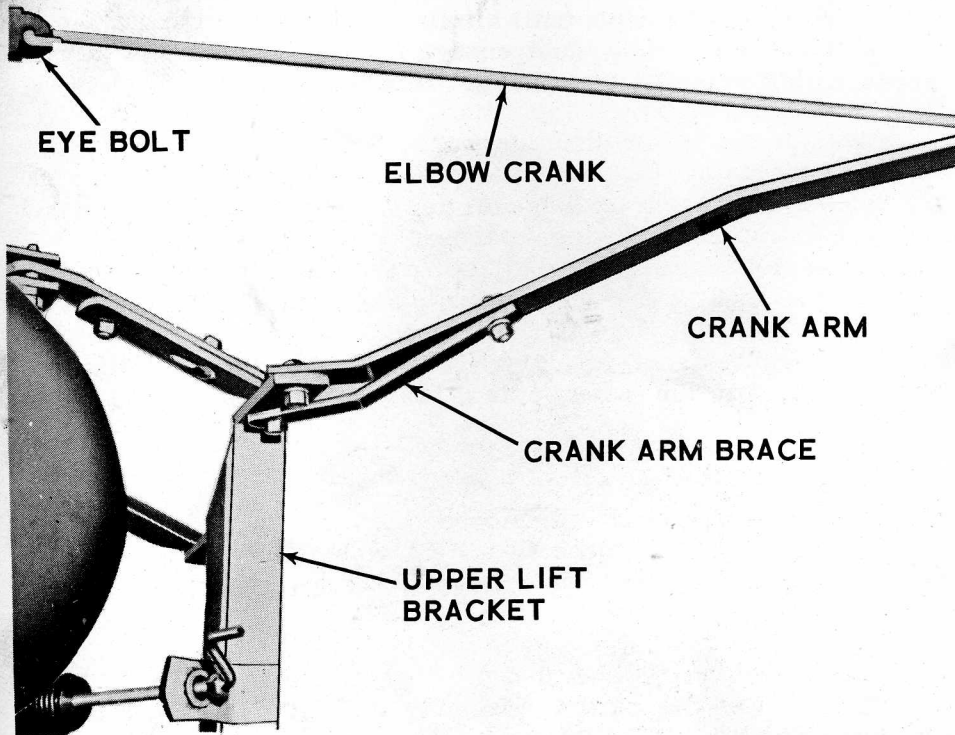

Figure 17
6. Place the elbow crank through the guide on the crank arm and connect to the eye bolt (Figure 17) on the rear right side of the blower housing. Press the plastic bushing into the crank guide.
7. Secure the crank arm and crank arm brace to the upper lift bracket (Figure 17) with two 3/8" x 1" cap screws, lockwashers, and hex nuts. Tighten the lower cap screw on the crank arm brace which was preassembled to the upper lift bracket.